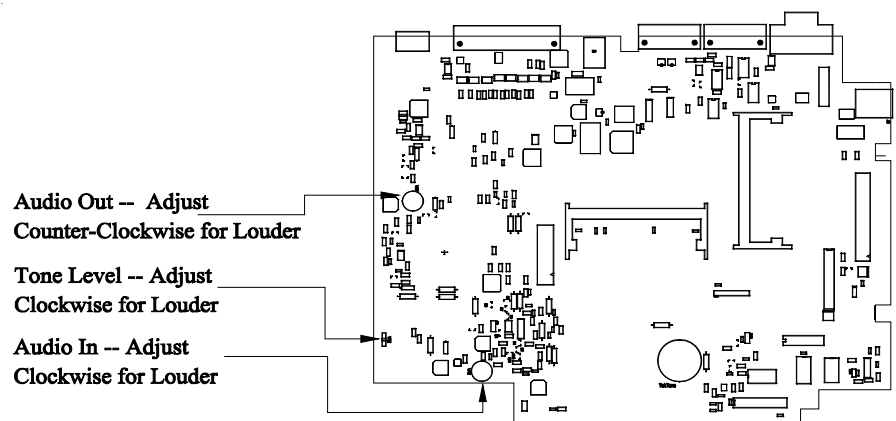

Figure 22 – NC304 and NC304LCD Potentiometer Functions
**NC304 and NC304LCD Master Station:** The device addresses are configured through software. Please see the **System Configuration and Programming** section in **Part 1** of this manual for set up information. Internal adjustment controls are provided for field adjustment of **Audio In** (clockwise to adjust louder), **Tone Level** (clockwise to adjust louder), and **Audio Out** (counterclockwise to adjust louder), if the site has specific needs that require changes from the factory settings. The **Audio Out** control must never be set to less than the half position. If the master audio is too loud at the patient station, refer to **Figure 40—NC351(A)/2 Internal Hardware Diagram** for additional controls to adjust. A reset switch is present and is located on the bottom of the master station and is accessible by one of the openings there. It is a momentary microswitch that can be pressed by any small nonmetallic tool. Pressing this switch will reset the master station. Refer to Figure 22 for physical locations of adjustment potentiometers.